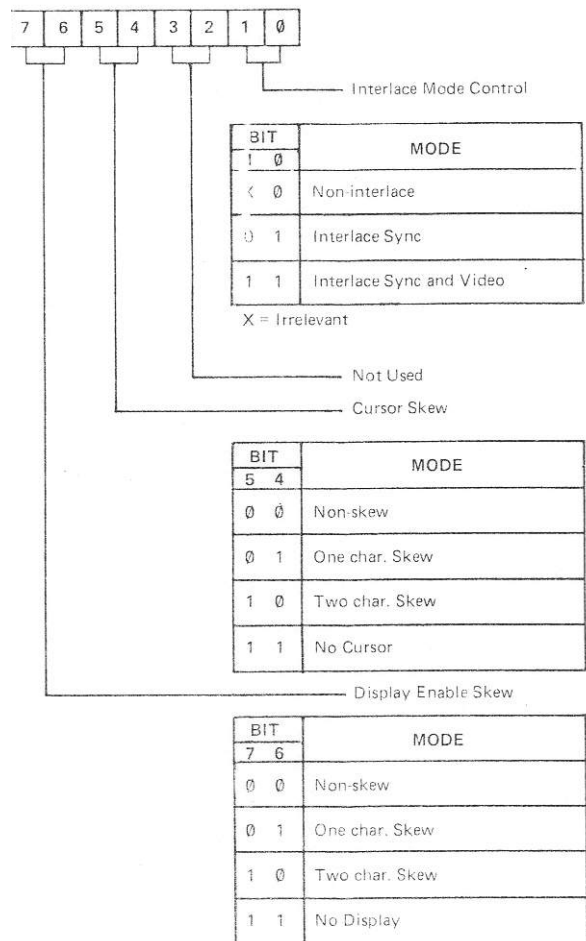

Figure 6. Interlace and Skew Register (R8) Bit Significance
- ADDRESS (AR): Contains the vector number (hex) of the specified internal Control Register in bits 0-4. Accessed by a Write operation when A0 = '0'r
- INTERLACE & SKEW (R8): Selects the VDU Controller operating mode, refer to Figure 6.